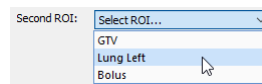

Figure 242 – Selecting the second ROI for algebra
3. Select the second ROI in the drop-down list that is displayed by clicking the **Second ROI** button (see Figure 242).